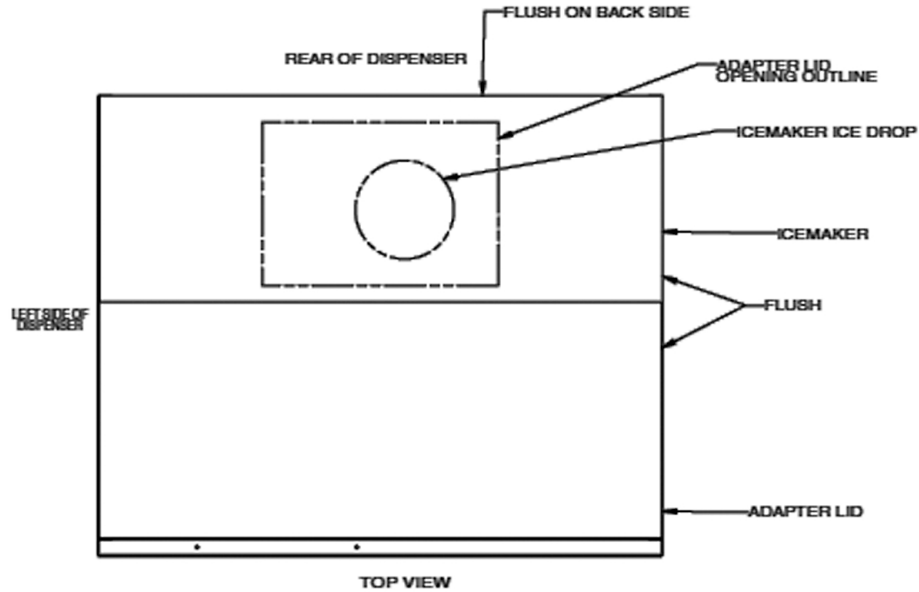

Figure 4.
9. Set ice maker onto the adapter kit. See Figure 4 for location dimensions.